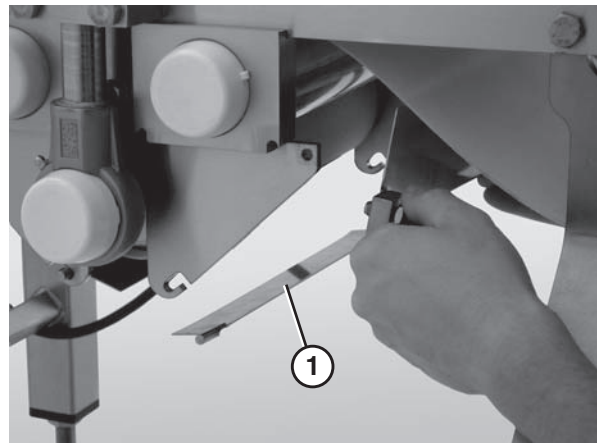

Figure 56
3. Lift up on the center drive guard (Figure 56, item 1) and remove it.